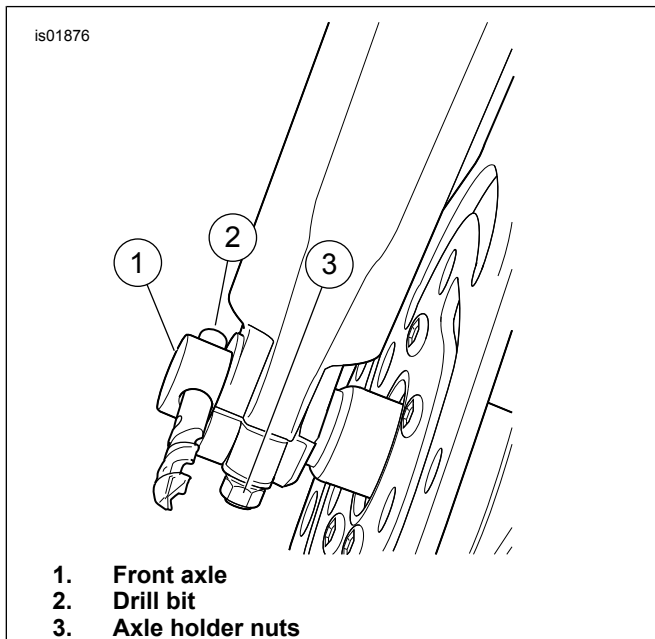

Figure 3. Front Wheel Mounting (Right Side)
5. Push axle through ABS sensor (H) and left fork leg until axle shoulder contacts sensor on right fork side.
6. Install flat washer (G) and axle nut (F).
8. See Figure 3. Insert 7/16 inch drill bit (2) into hole in axle (1).
9. Pull fork leg so that it just contacts drill bit, and then tighten axle holder nuts (3) to 14.9–20.3 N·m (132–180 in-lbs).